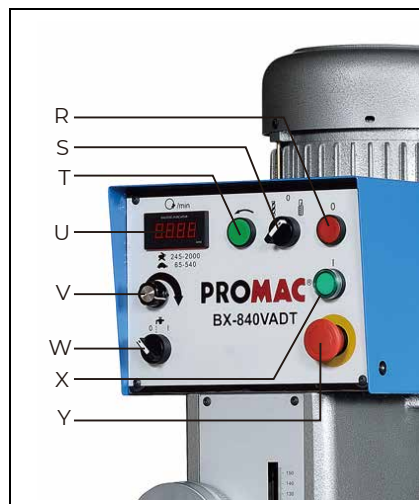

Fig 5
You can start the machine with the green ON-button (X, Fig 5).
Lower the spindle until the drill bit touches the workpiece. Rotate the scale ring to the desired drill depth and tighten the lock knob (D). Start the machine (X, Fig 5)